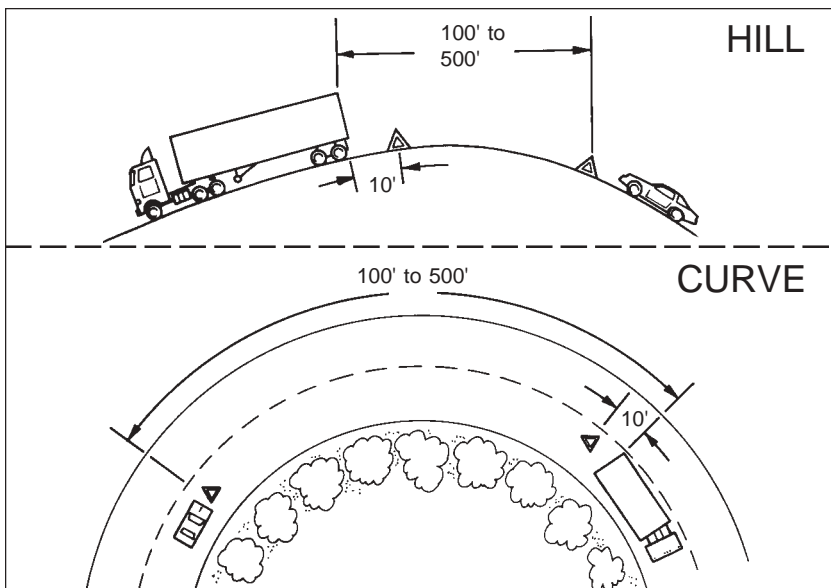

Figure 2-9.
- Back beyond any hill, curve, or other obstruction that prevents other drivers from seeing the vehicle within 500 feet. (Figure 2-9.)